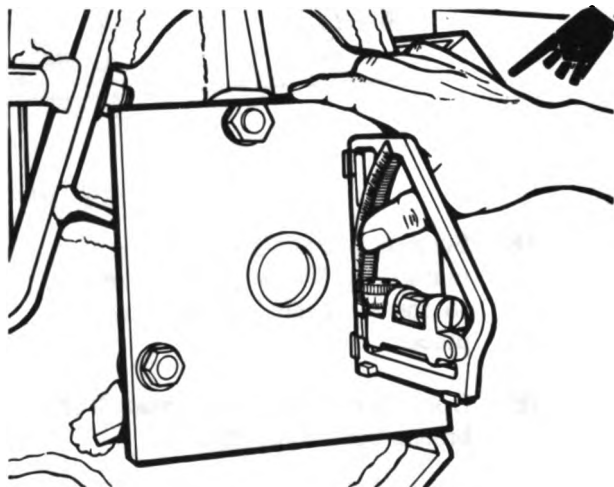

Figure 80.6. Leveling check gage vertically.
- (c) Place the gunner's quadrant on the check gage and level vertically (fig. 80.6) within  $\pm 0.5$  mil. Shim the telescope mount bolts (fig. 80.7) or file the mount pads if necessary to obtain the  $\pm 0.5$ -mil tolerance.